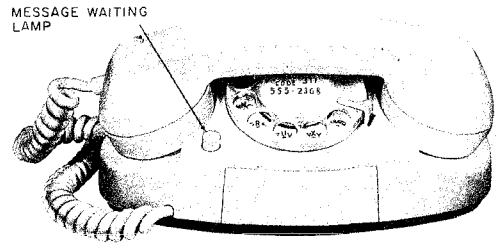

Fig. 3 — 701D-Type Telephone Set
**2.09** The 701D telephone set is equipped with a message waiting lamp (see Fig. 3 & 4). This set is intended for use with PBX which provides message waiting feature.